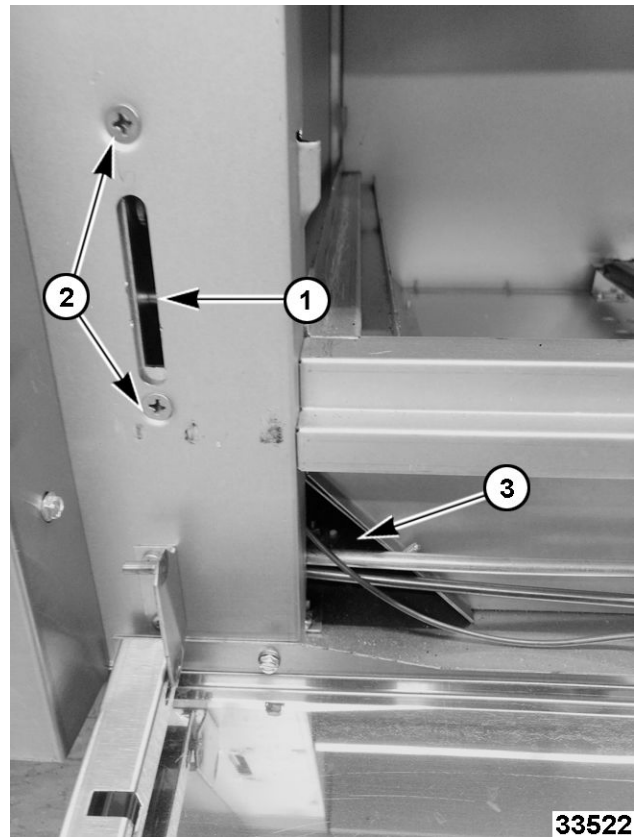

Fig. 38
2. Tie string or flexible wire around pin or roller (1, Fig. 38).
3. Remove stop bracket from oven frame (2, Fig. 38).
4. Slide stop bracket down cavity channel and out through opening (3, Fig. 38).